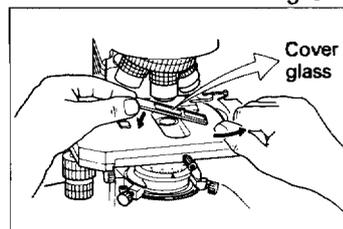

Fig.3-5
- 5) Place the specimen (glass slide) on the stage with its cover glass facing up and fasten it with the specimen holder (Fig. 3-5).